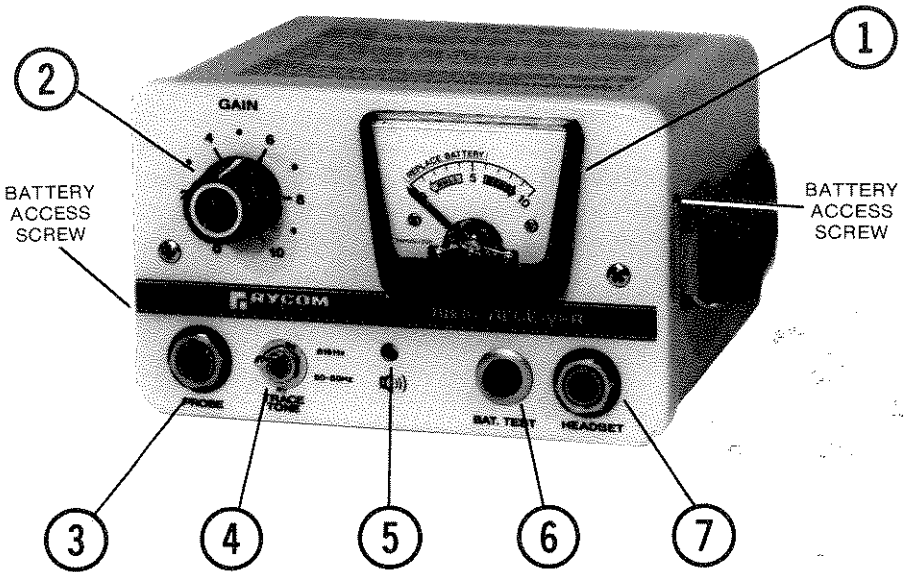

Figure 1-5. Receiver Features
- ④ **TRACE TONE SWITCH.** Flip to the 815 Hz position when you use the 8830 transmitter as the trace tone source. Trace energized power cable by flipping the switch to the 50-60 Hz position. Note that no transmitter hookup is required when tracing energized cable.
- ⑤ **SPEAKER.** Listen to the audio PEAKS and NULLS when you use the receiver. The speaker produces an audio tone related to the meter reading (0 to 10). When the meter reading rises, the pitch of the audio tone rises. When the meter reading falls, the pitch of the audio tone falls. The lowest pitched tones are called NULLS. The highest pitched tones are called PEAKS.
- ⑥ **BAT. TEST SWITCH.** Test the batteries by pressing the BAT TEST switch and reading the meter. Replace the batteries as follows:
- a. Remove the 2 battery access screws (see Figure 1-5).
- ⑦ **HEADSET JACK.** The speaker is turned OFF when you use the headset.
- ⑧ **VOLUME ADJUST FOR SPEAKER & HEADSET.** Remove battery access screws and receiver cover. Adjust pots to desired level.